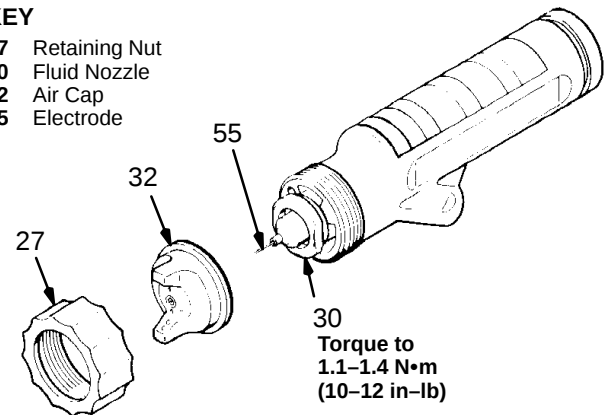

Fig 4
4. Remove the air cap retaining nut (27) and air cap (32). See Fig 4. With the wrench (79b) supplied, remove the fluid nozzle (30).